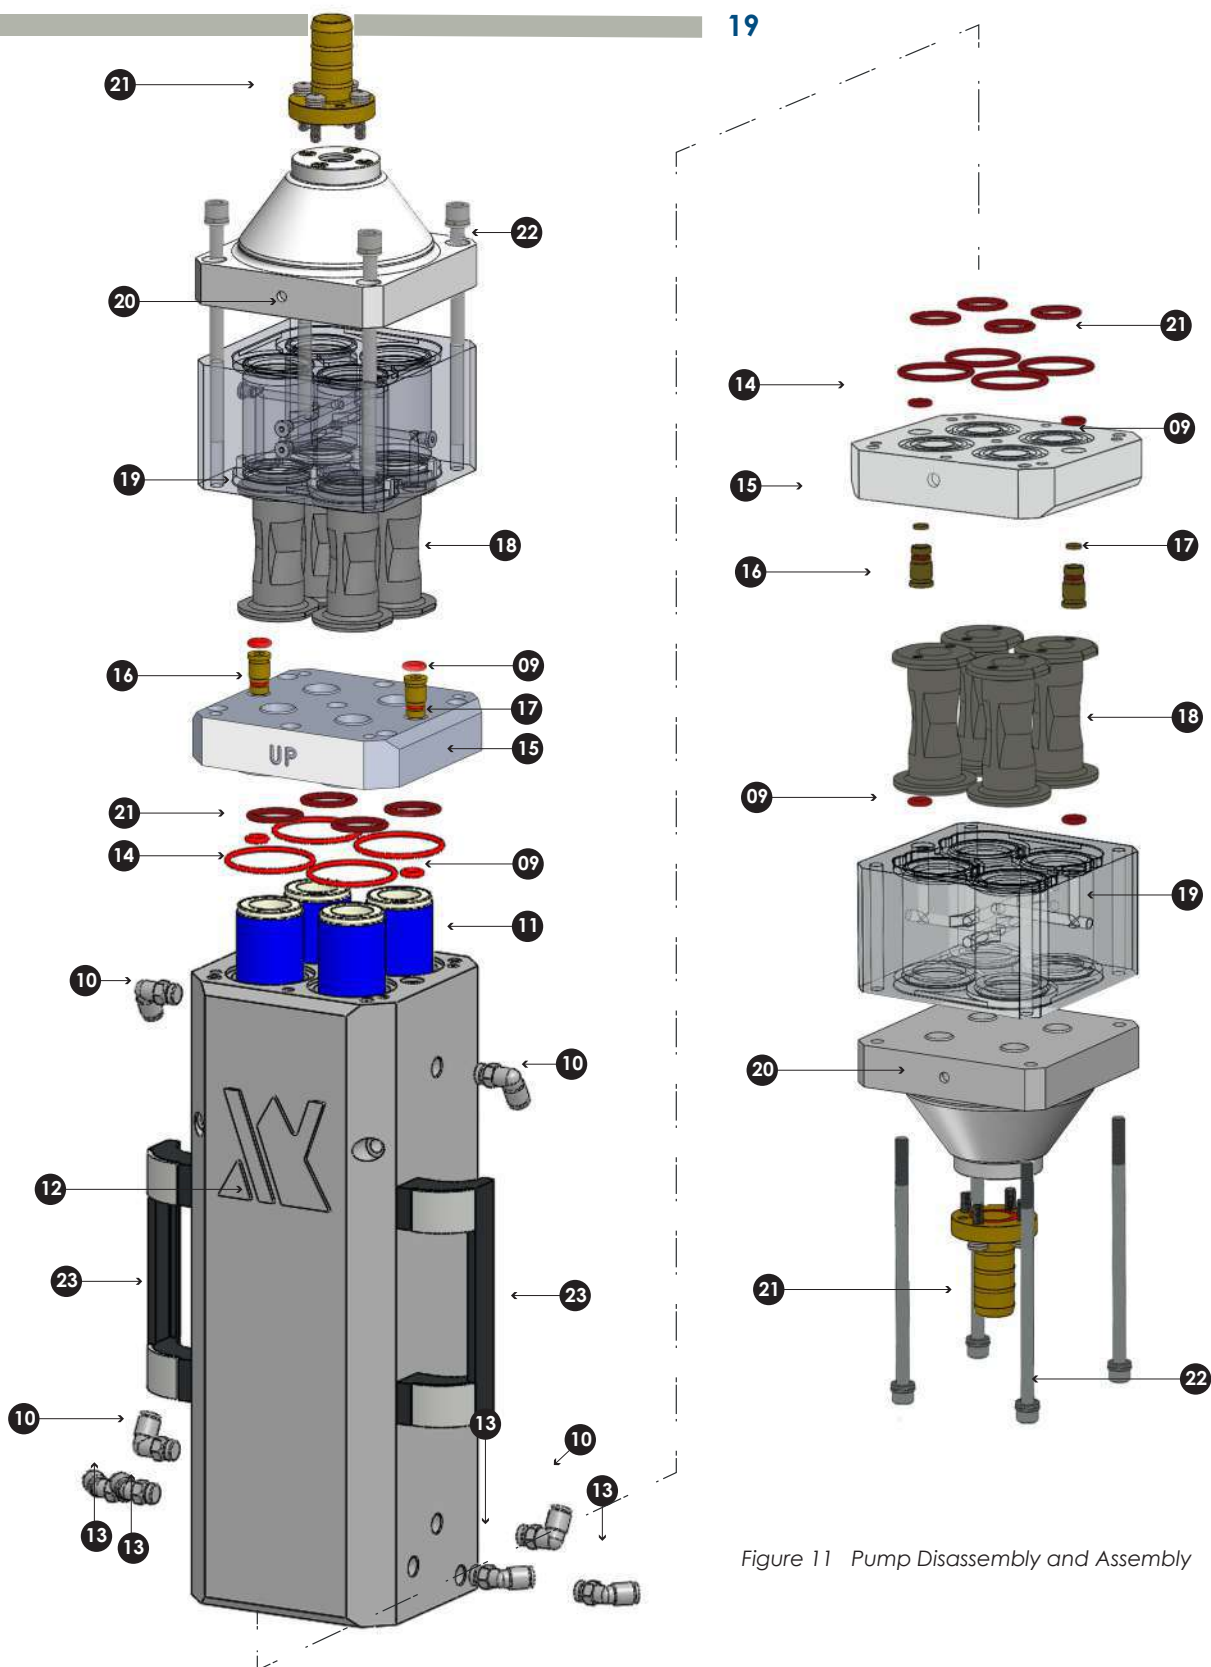

Figure 11 Pump Disassembly and Assembly
6. See Figure 11. Starting with the fluidizing tubes, disassemble the pump as shown.